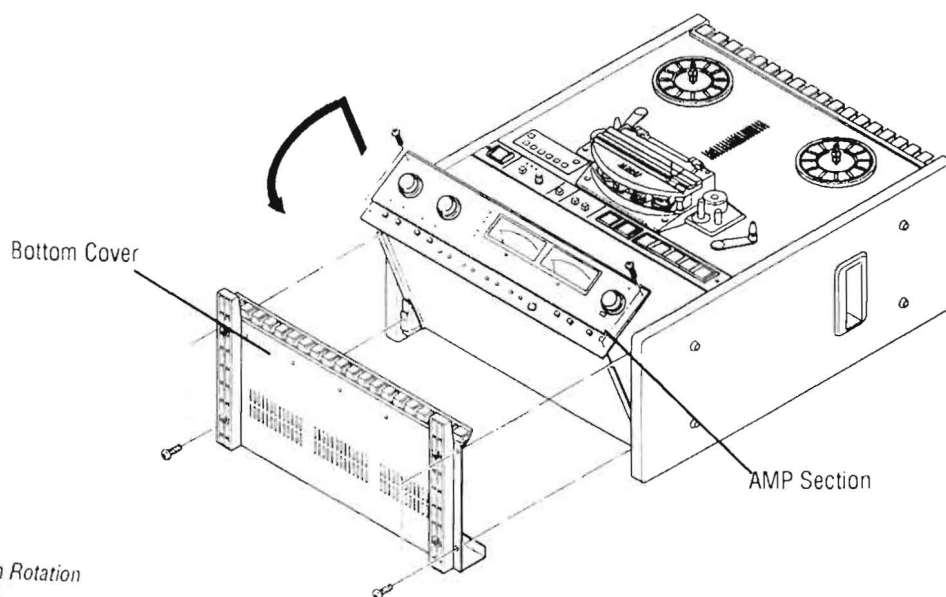

Figure 2-6
1. Turn off the machine. Place the machine so that the transport faces upward. Refer to Figure 2-6.